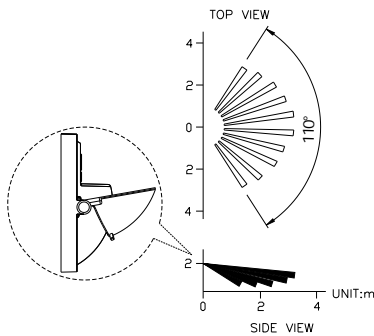

FIGURE 13
- For minimum detection range (4m) the control cover should be in the fully down position. FIGURE 13
For testing purposes move the control cover to the fully down position (FIGURE 13) to allow access to the PIR controls. Turn the power to the unit on and allow the unit to 'warm up' for approximately one minute.
maximum range, mid range or minimum range move the control cover to the fully down position (FIGURE 13) to finally set the Time and Lux control levels to your requirements.